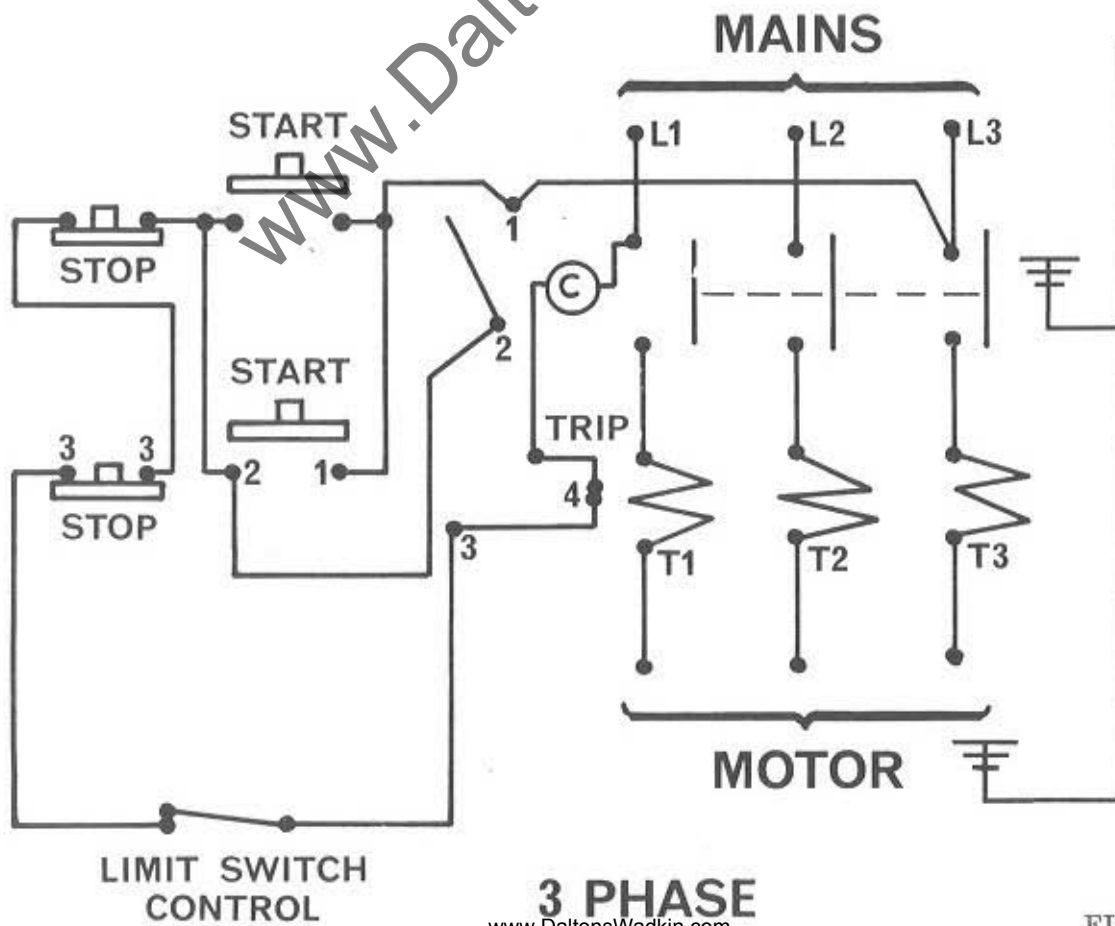

FIG. 3
4. Connect the line leads to the appropriate terminals. See Fig. 3 for 3 phase supply.